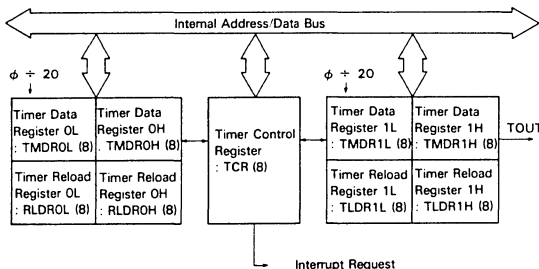

Figure 29. PRT Block Diagram
**PRT block diagram.** The PRT block diagram is shown in Fig. 29. The two channels have separate timer data and reload registers and a common status/control register. The PRT input clock for both channels is equal to the system clock divided by 20.